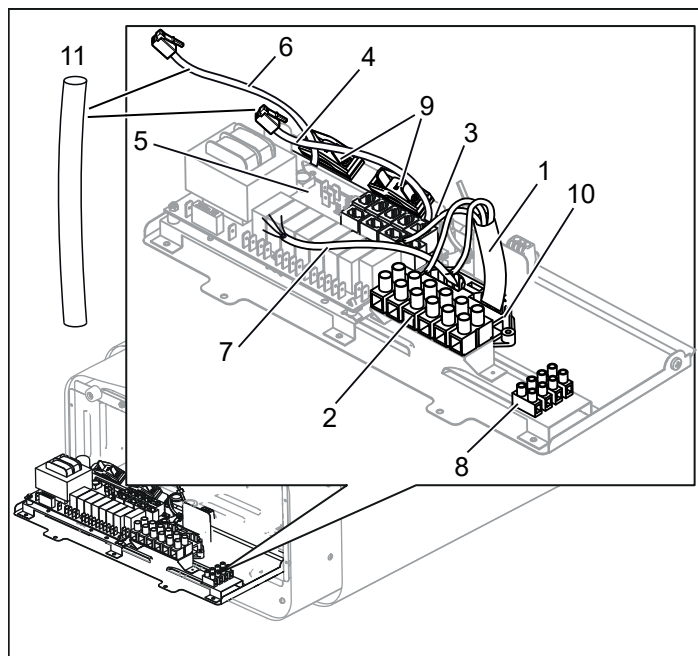
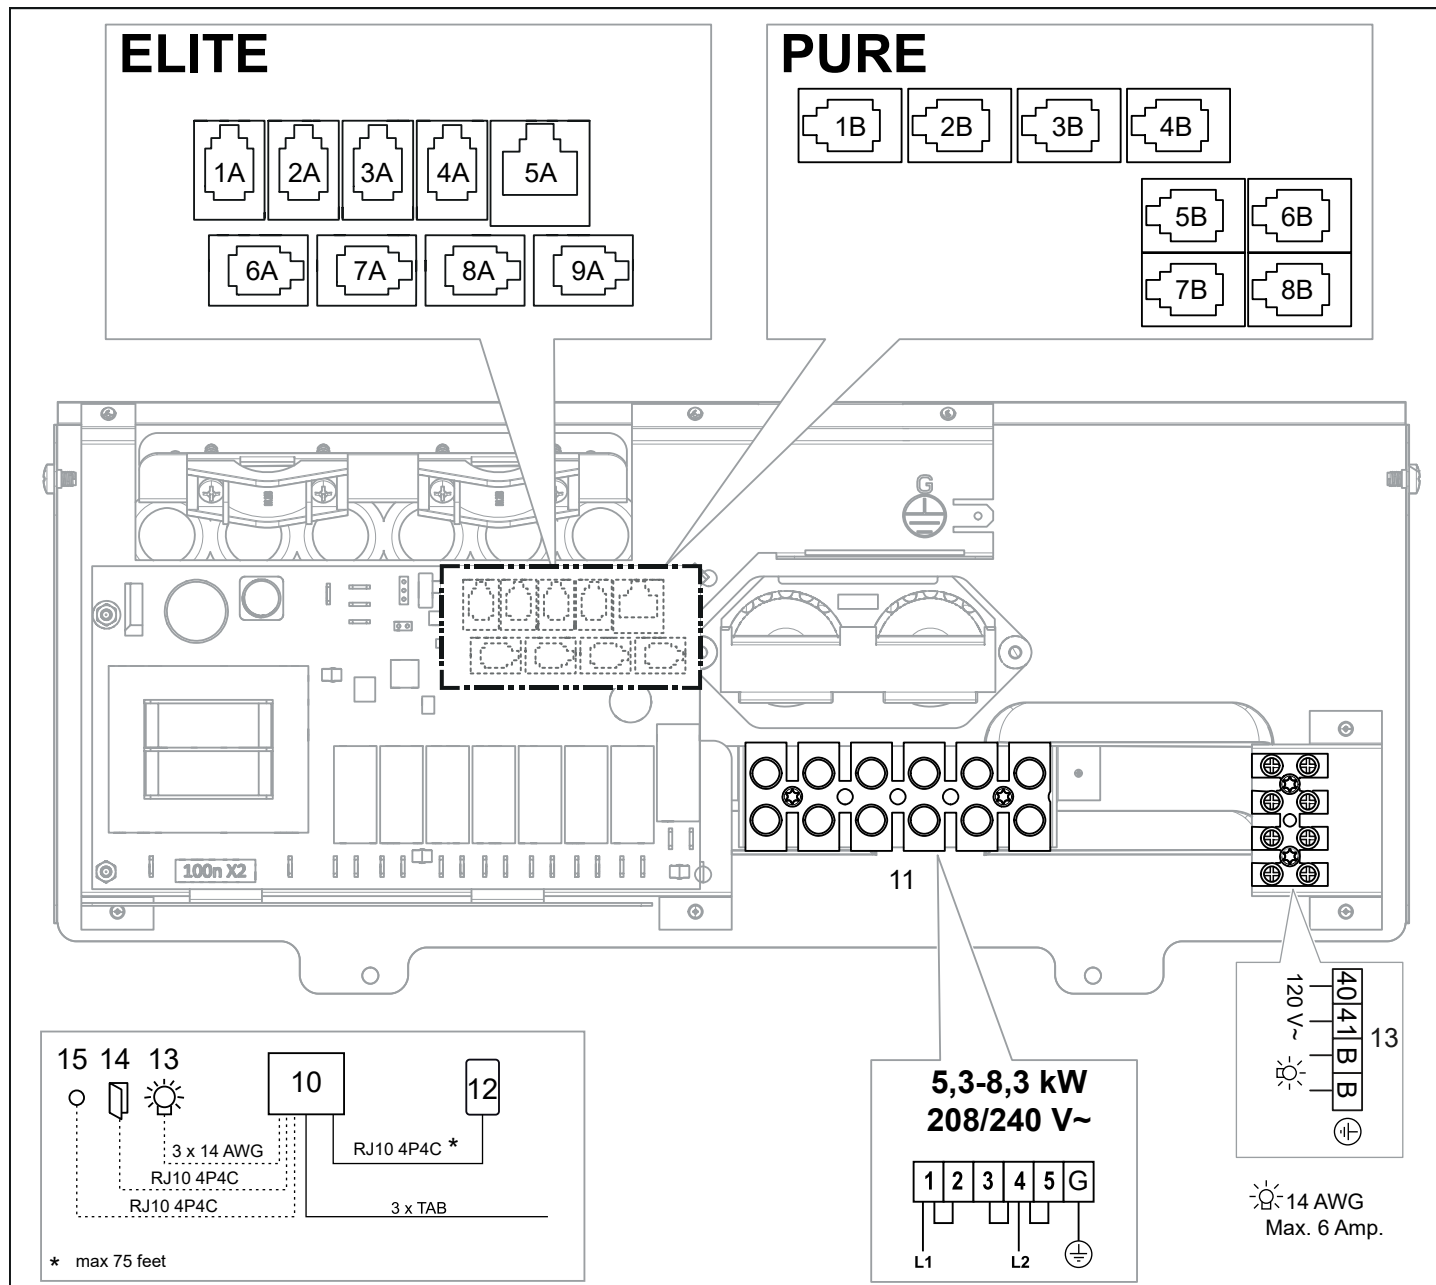

Figure 10: Circuit board
Figure 18: Wiring diagram
3. Connect the electrical cable (1) to the terminal (2) (see Figure 10) according to the wiring diagram (see the Connection/wiring diagram section, page 8).
4. Run the cables for the control panel and the temperature sensor through the cable grommets (3). Connect the control panel cable (4) to one of the four RS485 contacts (positions 5-8 Pure, 6-9 Elite) (see Figure 10) according to the wiring diagram (see the Connection/wiring diagram section, Fig 18 page 8).
5. Connect the humidity- and temperature sensors cable (6) to one of the four RS485 contacts (positions 5-8 Pure, 6-9 Elite) (5) according to the wiring diagram (see the Connection/wiring diagram section, Fig. 18 page 8).
6. Connect the light cable (if used) (7), see Figure 10, to the terminal (8) according to the wiring diagram Figure 18.
Contact Tylö Customer Service before connecting to voltages or numbers of phases that are not listed in the wiring diagram Figure 18.